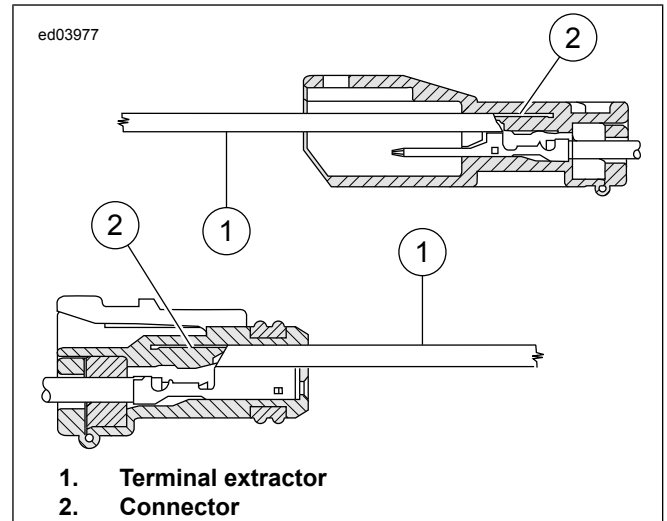

Figure B-20. Terminal Removal
2. See Figure B-20. Insert the extractor into the opening above the terminal and press the plastic molding up and out of the way.